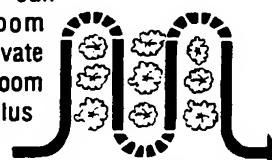

Fig. 4-9
- When cultivating (breaking up surface soil around plants to destroy weeds, see Fig. 4-9), adjust the tines to dig only 1' to 2' deep. Using shallow tilling depths helps prevent injury to plants whose roots often grow close to the surface. If needed, lift up on the handlebars slightly to prevent the tines from digging too deeply. (Cultivating on a regular basis not only eliminates weeds, it also loosens and aerates the soil for better moisture absorption and faster plant growth.)
With planning, you can allow enough room between rows to cultivate (see Fig. 4-9). Leave room for the hood width, plus enough extra room for future plant growth.